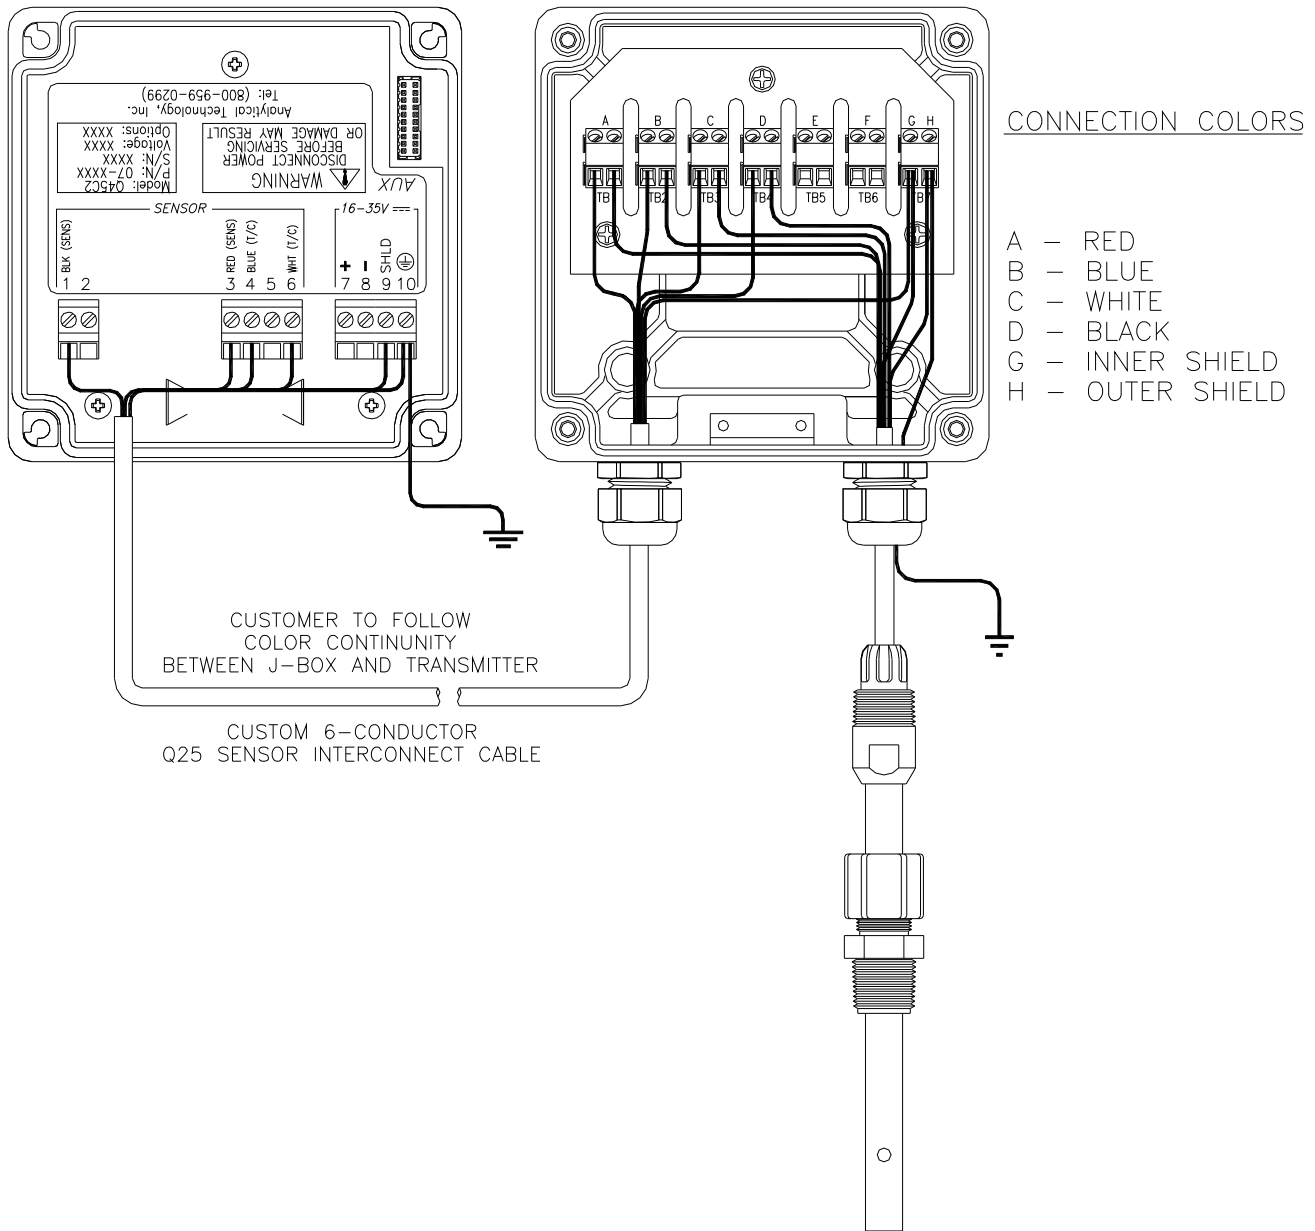

Figure 9 - Junction Box Interconnect Wiring
For installations where the sensor is to be located more than 30 feet from the monitor (max. 100 feet), a junction box must be used. The junction box is shown in Figure 9, and is supplied with a (2) Pg 9 cord grips for sensor and interconnect wiring.